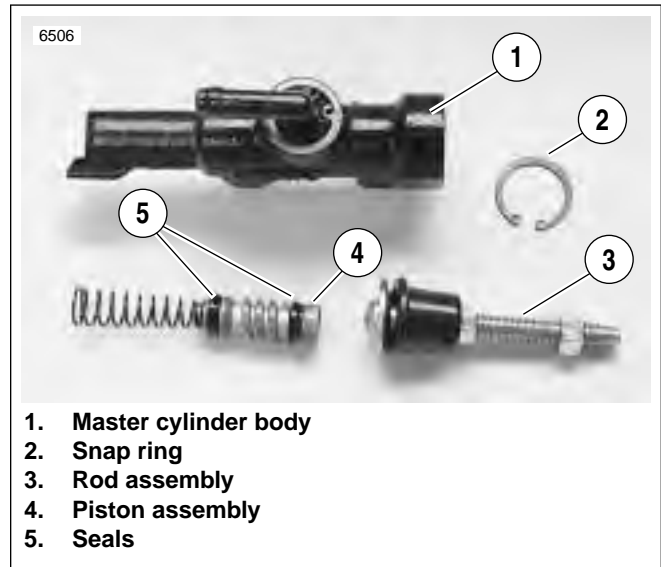

Figure 2-54. Master Cylinder Internal
1. See Figure 2-54. Slide rubber boot on rod assembly (3) away from master cylinder body (1).
2. Depress rod assembly (3) and remove internal circlip (2). Discard circlip.
3. Remove piston assembly (4) from master cylinder body (1).
4. Loosen adjuster locknut on the rod assembly (3).
5. Remove the clevis from the rod assembly (3).
2. See Figure 2-54. Assemble **new** piston components placing small end of spring behind primary seal of piston (4).
3. Lubricate master cylinder body (1) and piston seals (5) with **D.O.T. 4 BRAKE FLUID**.
4. Place round side of rod assembly (3) over piston. Depress piston (4) into master cylinder body (1) and secure with a **new** circlip (2).